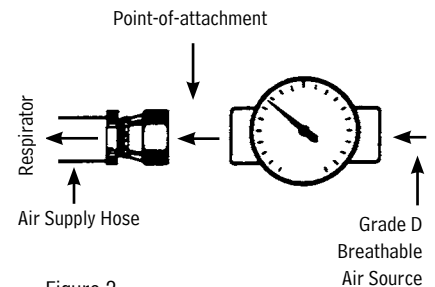

Figure 2
5. Adjust the air pressure at the point-of-attachment (Figure 2) to within the approved pressure range. See the Air Pressure section on the front page.